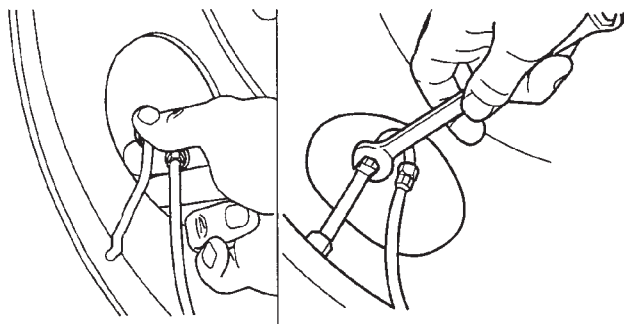

Figure 26: Attaching tire hoses to tire valve stem
4. **Tighten** the tire hose/valve stem connection finger tight (Figure 26).
5. Using a 7/16 inch wrench, **tighten** the tire hose / valve stem connection an additional one-half turn (Figure 26). **Do not overtighten this connection.**